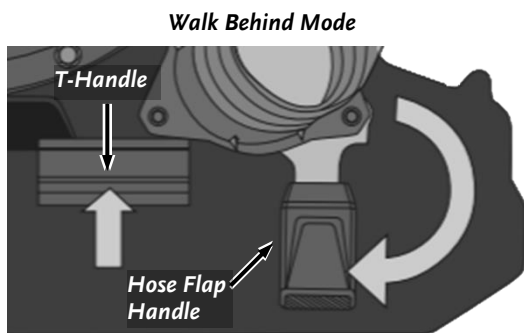

Figure 15
1. Position the T-Handle in the UP position to Direct vacuum Flow through the main Snout (**Figure 15**).
2. Position the Hose Flap Handle to the FRONT Position to BLOCK flow from the Hand Hose (**Figure 15**).